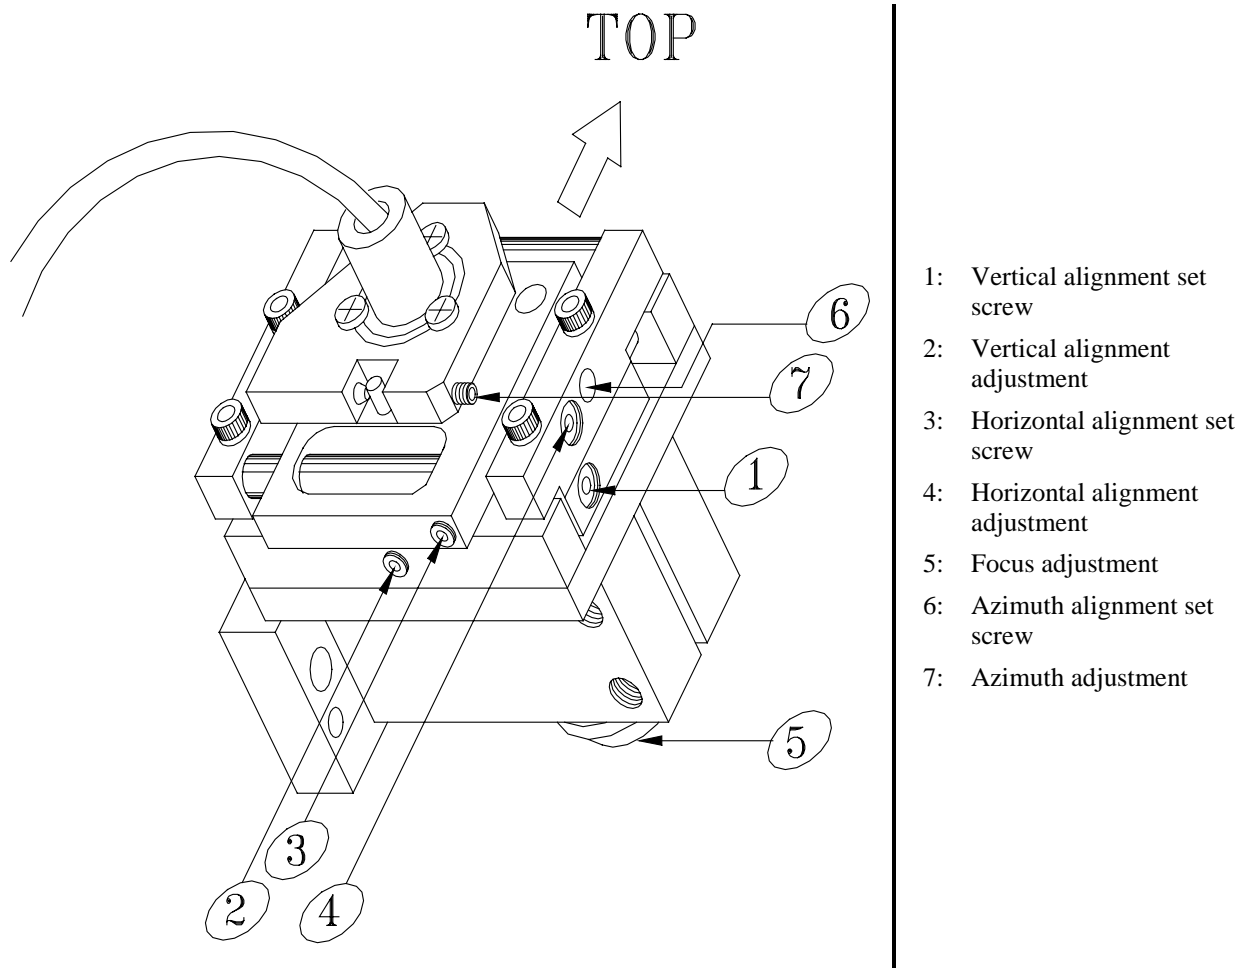

Figure 1-1: LED Soundhead Assembly
1. Loosen 3/32-inch Allen set screw on side of cell adjustment assembly (item 1 in Figure 1-1).
1. Loosen 3/32-inch Allen set screw on bottom of cell adjustment assembly (item 3 in Figure 1-1).
3. Adjust lateral position of cell (item 4 in Figure 1-1) until there is no output at processor's test points. If output is present on both left and right test points, increase focal distance between lens and cell.
1. Loosen 3/32-inch Allen Azimuth set screw in hole on side of cell adjustment assembly (item 6 in Figure 1-1).
4. Adjust Focus (item 5 in Figure 1-1) and Azimuth (item 7 in Figure 1-1) for maximum high frequency response and phase coherence.
5. Carefully lock focus adjustment (5) and azimuth set screw (6).